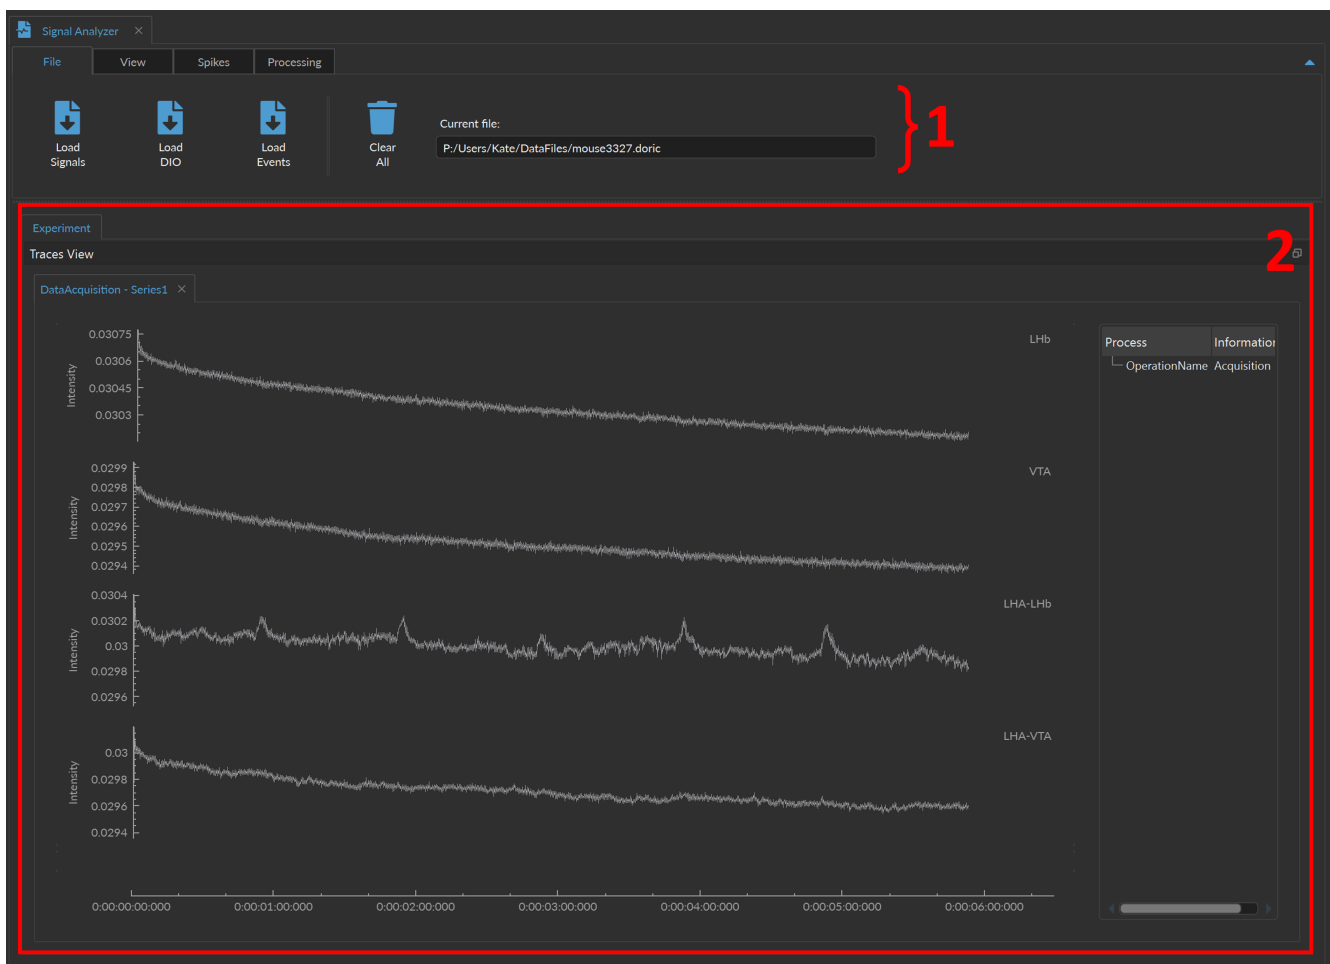

Figure 10.1: Signal Analyzer Module
The **Signal Analyzer module** (Fig 10.1) is separated into two main sections.
1. The **Control section** (Fig. 10.1, 1) contains all controls, separated into the **File**, **View**, **Spikes** and **Processing** tabs.
2. The **Trace View** (Fig. 10.1, 2) contains all currently displayed graphs as well as timestamped notes.